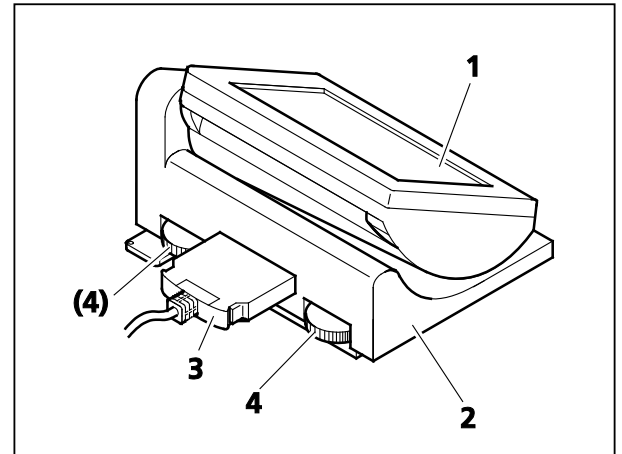

Fig. 39 Attaching the TFT display to the docking station
- Apply the TFT display (Fig. 39/1) to the docking station (Fig. 39/2) and screw it on, using the long Allen key provided. Make sure that the plug-in contact is inserted precisely into the opening.
- Use the connection cable (Fig. 39/3) to connect the docking station to the **DOC** port on the back of the stand.
- The angle of the TFT display can be changed with the aid of the two knurled thumb screws (Fig. 39/4) located on the back of the docking station.